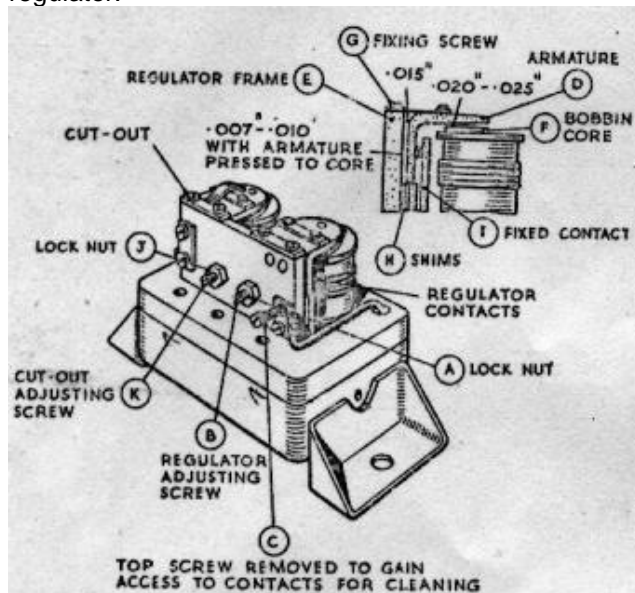

Fig. 69. Regulator adjustment and setting.
If the voltage at which the reading becomes steady is outside these limits, the regulator must be adjusted. Shut off the engine, release the locknut (A, Fig. 69) on the regulator adjusting screw (B) and turn the screw in a clockwise direction to raise the setting, or in an anti-clockwise direction to lower the setting. Turn the screw a fraction of a turn at a time and then tighten the locknut. When adjusting, do not run the engine up to more than half-throttle, as while the dynamo is an open circuit, it will build up to a high voltage if run at a high speed and so a false voltmeter reading would be obtained.
Insert a .015" feeler gauge between the back of the armature (D, Fig. 69) and the regulator frame (E). Insert a .020" - .025" feeler gauge between the top of the bobbin core (F) and the underside of the
(c) To check the voltage at which the cut-out operates, with the engine still running, the voltmeter should be connected between the "D" terminal and earth. Slacken the locknut (J, Fig. 69) on the cut-out adjustment screw (K) and turn the screw in an anti-clockwise direction until the cut-out contacts are seen to close. Check the voltage at which the cut-out operates and if necessary adjust by turning the screw in a clockwise direction to raise the setting or anti-clockwise direction to lower it. Set the cut-out so that the contacts close at 6.2-6.6 volts. Tighten the locknut after making the adjustment.